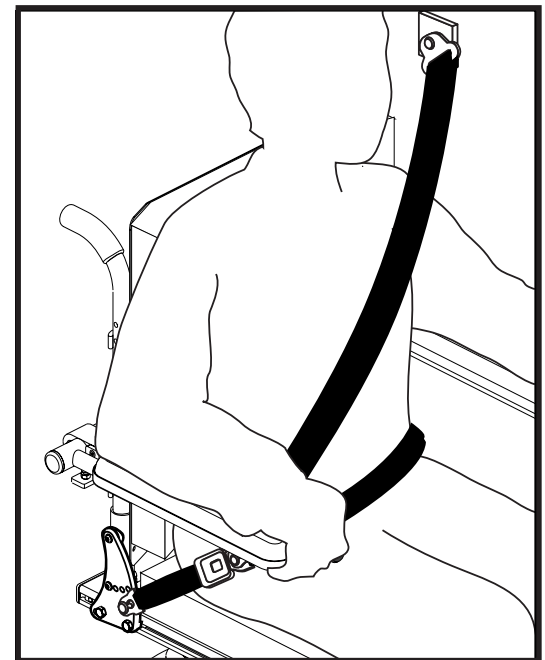

Figure 16. Proper Pelvic Belt Placement
- Place the upper-torso belt across the middle of the shoulder and the center of the chest, and connect to the pelvic belt near the hip of the power chair occupant. **See figure 16.**
- If your power chair is equipped with a crash-tested pelvic belt that is anchored to the seat frame, complete the restraint system by attaching the lower end of the WTORS upper-torso belt to the pelvic belt by referring to the WTORS manufacturer's instruction. Crash-tested power chair-anchored pelvic belts will be labeled to indicate compliance to the ANSI/RESNA WC/Vol 4, Section 19/ISO 7176-19 standards. **See figure 16.**